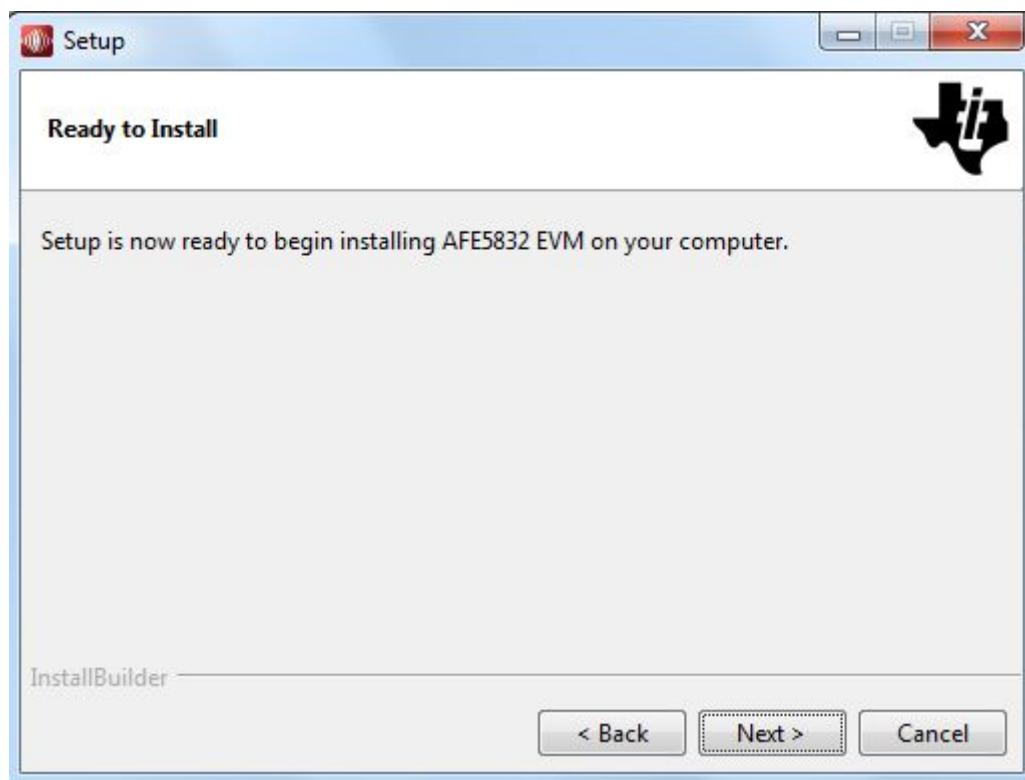

Figure 37. AFE5832 GUI Install (Installation Ready)
7. Pressing the *Next* button begins installation, as shown in Figure 37.